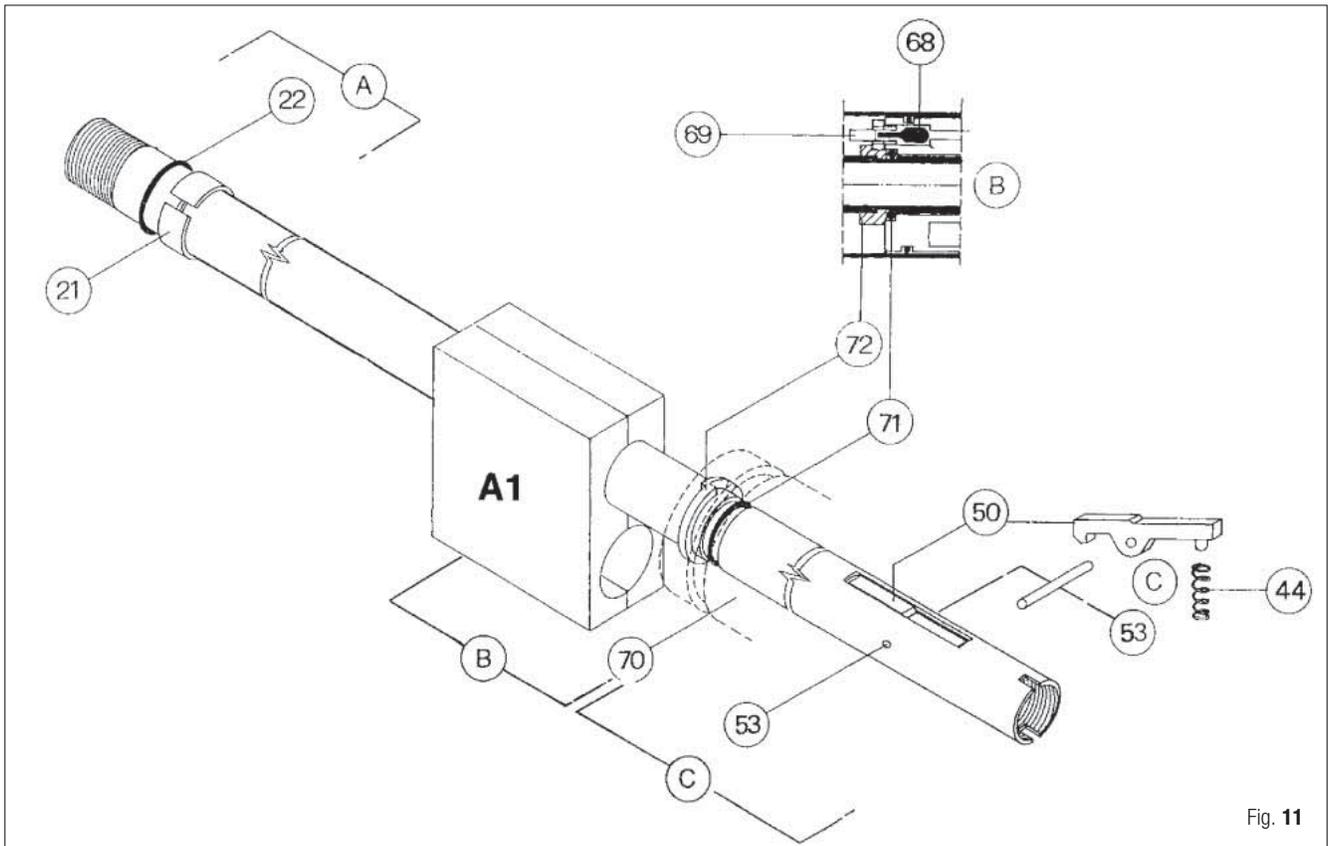

Fig. 11
1. Place the barrel in the 16 mm. jaws (A-1) (Fig. 3) and clamp into vise (Fig. 11).
2. Install the barrel bushing (21) in the groove of the barrel with tool A-9, being sure that the side of the bushing with the smaller diameter is towards the handle of the gun. (Fig. 11-A).
3. Place O-ring (22) against the barrel bushing (21) with tool A-9 (Fig. 11-A).
4. Using tool A-7, install the snap ring (72) into the groove of the barrel, with the square tab facing the front (muzzle end) of the barrel (Fig. 11-B).
5. Place o-ring (71) in the groove of the barrel next to the snap ring (72) with tool A-7 (Fig. 11-B).
9. Slide the power regulating block into position over O-ring (71). Rotate the snap ring and/or power regulating block as needed to align the one-way housing (69) with the snap ring seat. (Fig 11-B).
10. Install spring (44) onto catch hook (50) (Fig. 11-C).
11. Install catch hook (50) with spring (44) attached, into the barrel and align the hole in the catch hook with the holes in the barrel and install the catch hook pin (53) (Fig. 11-C).
13. Place O-ring (20) into the groove of the handle (41).
**NOTE** IF THE O-RING SEAT (39) WAS REMOVED FROM THE POWER ADJUSTMENT ROD (35), PUT A DROP OF THREAD COMPOUND (LOCTITE 270) IN THE THREADED HOLE OF O-RING SEAT (39) AND TIGHTEN IT SECURELY ON THE POWER ADJUSTMENT ROD (35).
14. Slide spring (24) onto power adjustment rod.
15. Slide power adjustment rod bushing (36) onto the power adjustment rod, with the smaller diameter facing away from the O-ring seat (39).
16. Place O-ring (37) onto power adjustment rod against the power adjustment rod bushing (36).
17. Insert the power adjustment rod into its hole in the handle (41), press O-ring (37) and power adjustment rod bushing (36) into handle.
18. Insert the power adjustment lever (38) into its housing in the handle, then with a 7 mm wrench, gently tighten the power adjustment rod onto the power adjustment lever.
19. Place O-ring (37) into the groove of the O-ring seat (39) using tool (A-12).